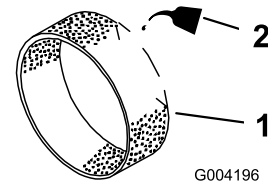

Figure 15
3. Put one or two ounces (29.6 or 59.1 ml) of oil on the pre filter (Figure 15).